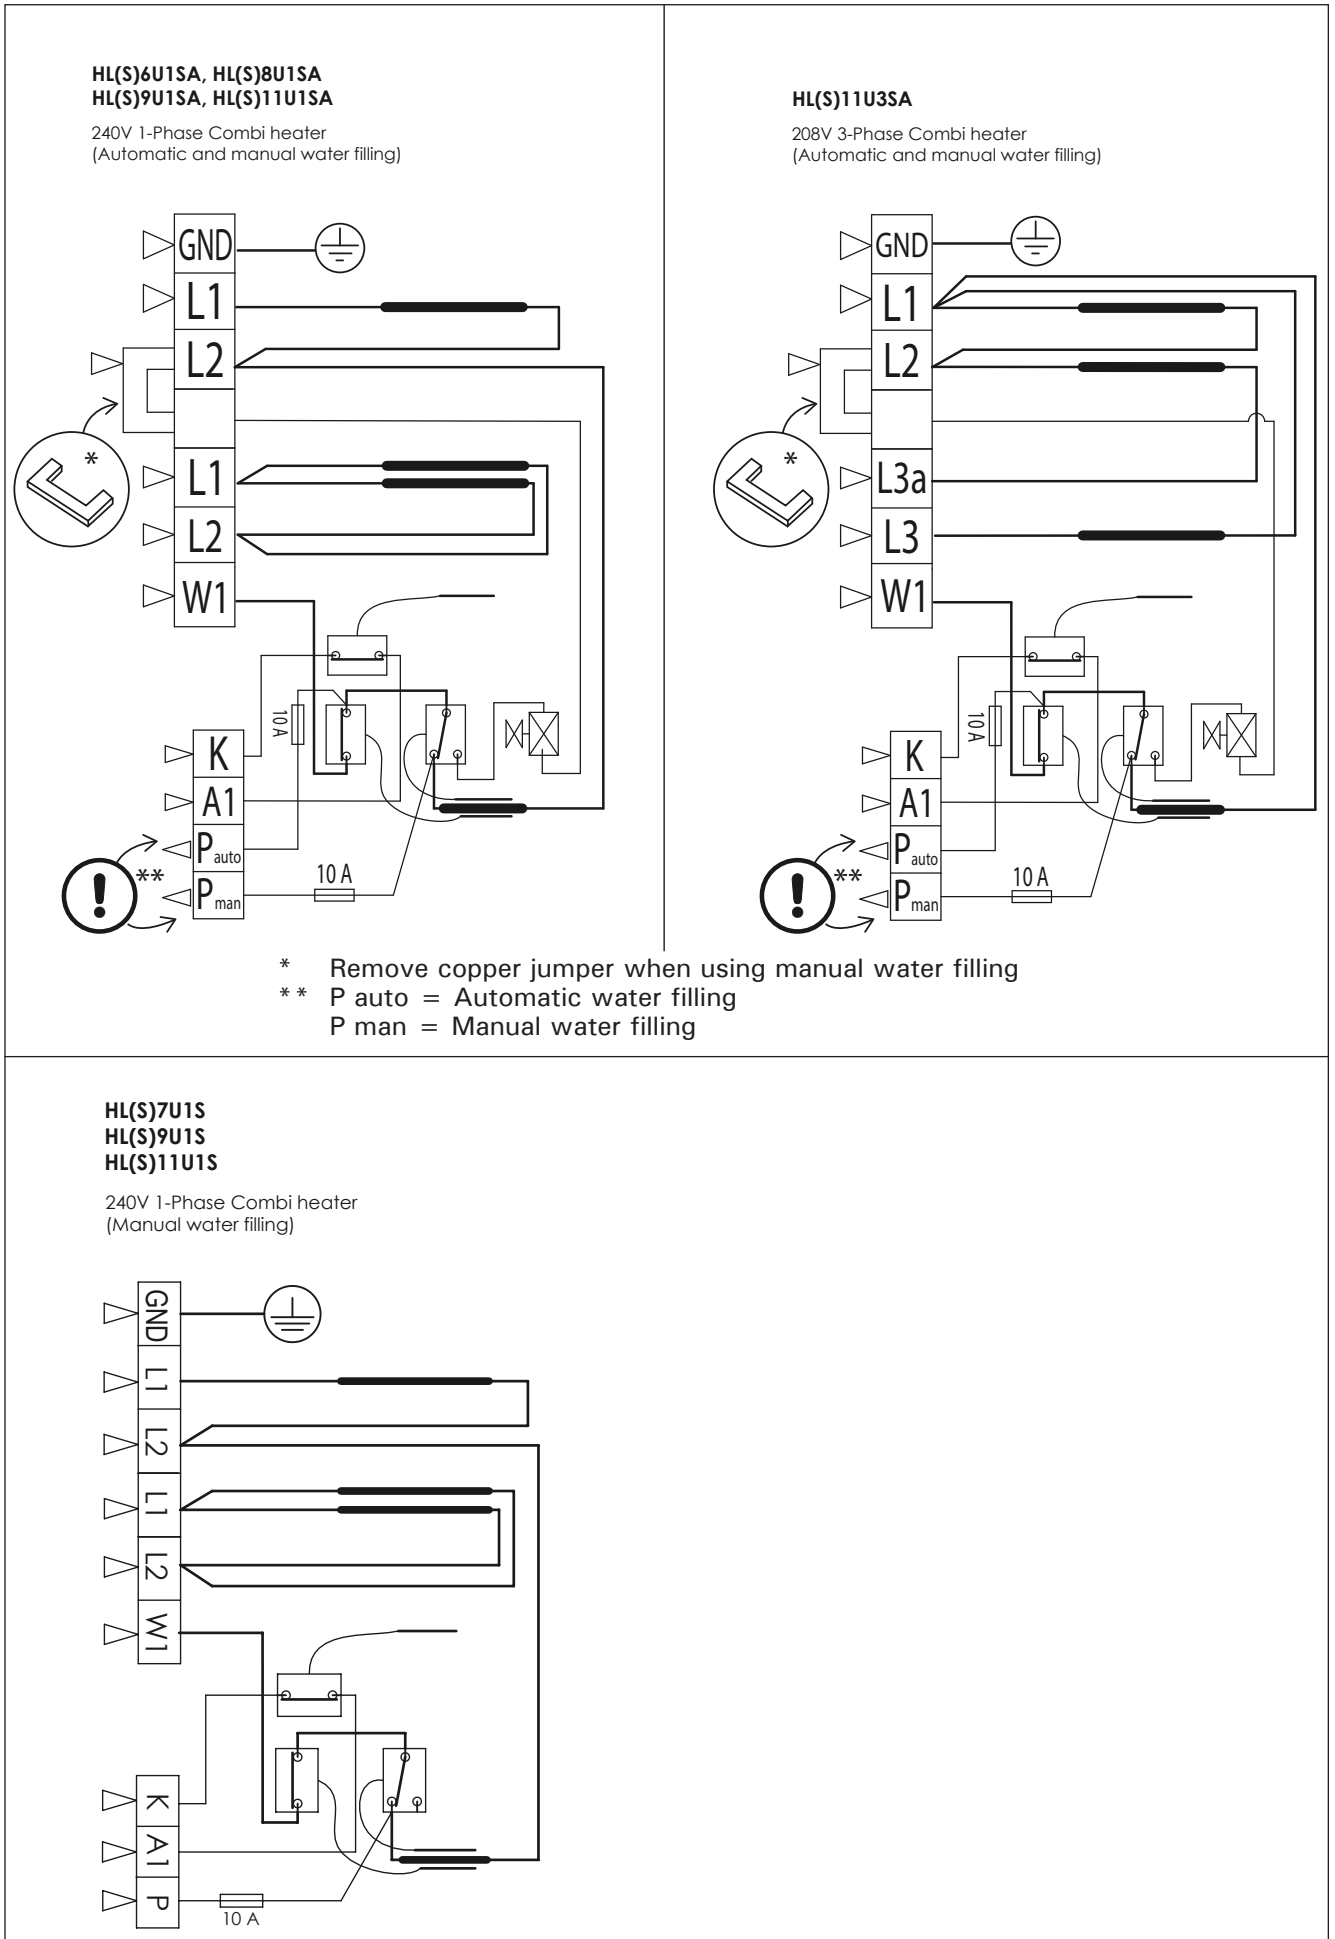

Figure 8. Electrical connections of heater
2. See applicable wiring diagram for heater model (figure 8, see control unit manual for detailed instructions how to connect the heater and the control unit). Heater must be permanently installed by using seal tight conduit between the heater and the wall of the sauna room (pigtailed or plugs are not allowed in the sauna room). Wiring must be done by a licensed electrician, who must follow wiring diagram provided and adhere to local codes. Use proper AWG rated wire size and use copper wire suitable for 194 °F (90 °C) within sauna walls. Use grounding terminals provided in sauna heater and control unit to properly ground the equipment as per NEC and local codes.